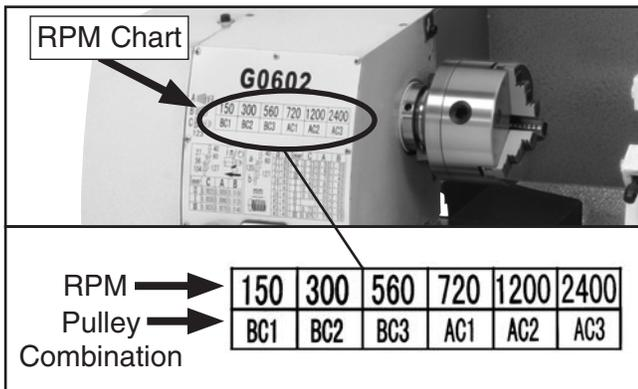

Figure 60. G0602 RPM chart.
2. Refer to the RPM chart in **Figure 60** to determine the pulley combination you need to achieve a spindle speed of 150 RPM—it is **BC1**.